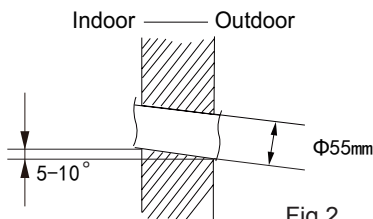

Fig.2
(2) Open a piping hole with the diameter of $\Phi 55\text{mm}$ on the selected outlet pipe position. In order to drain smoothly, slant the piping hole on the wall slightly downward to the outdoor side with the gradient of $5\sim 10^\circ$. (As show in Fig.2)